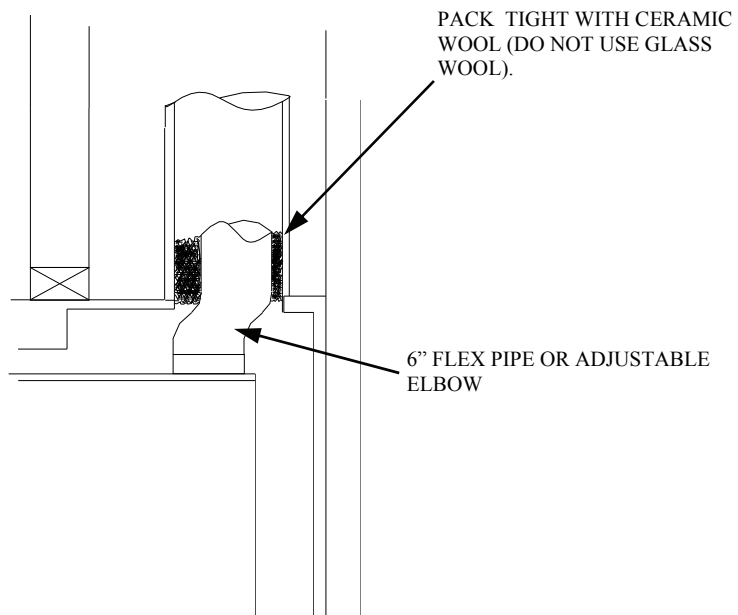

FIGURE 3
1. The second method is to use a 6” stainless steel connector (rigid or flex) and a ceramic blanket (available from your dealer). (See Figure 3.)